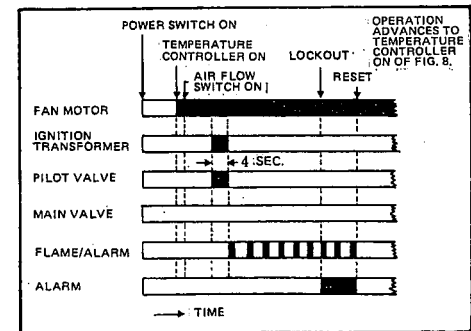

Fig. 9 Failure to ignite the pilot
2. Failure to ignite the pilot (see Fig. 9)